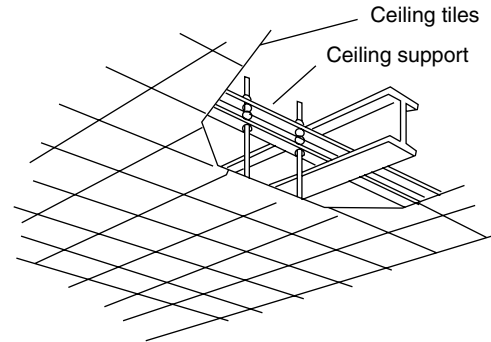

Fig. 3-170
- Use existing ceiling supports or construct a suitable support as shown in Fig. 3-170.